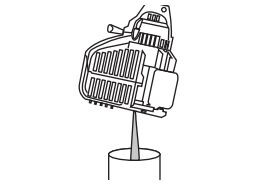

Fig. 39
- Pour the oil out of the oil fill hole and into a container by tipping the unit to a vertical position (Fig. 39). Allow ample time for complete drainage.